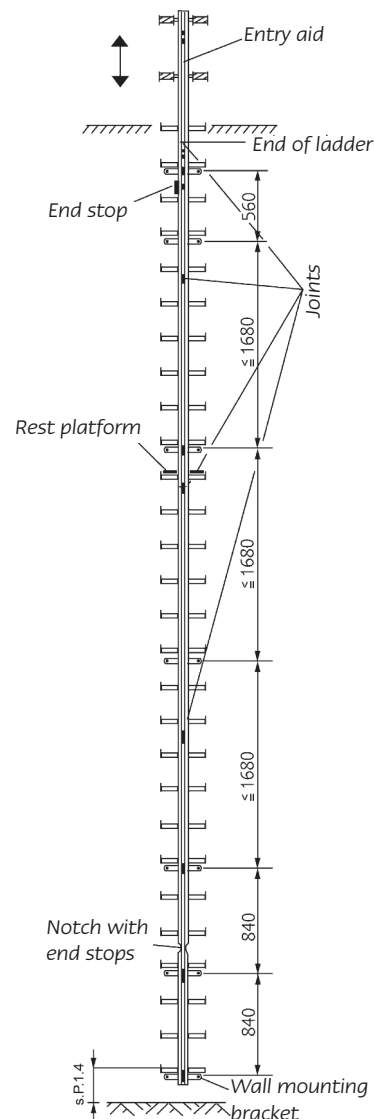

Fig. 1 Single rail fall protection ladder Model 5442.02/Model 9442.02 with attachable entry aid
- 1.3** The top rung and the top access level should be at the same height. In the case of manholes with cover or possible with dirt trap the top end of the ladder must be placed correspondingly lower (Fig. 1).
- 1.4** The distance from the lower access level to the lowest rung may be between 100 and 400 mm (Fig. 1).
- 1.5** According to DIN EN ISO 14122 a resting platform is required every 12 m. Like the workplace ordinance must be the Rest platforms in appropriate distances. The DIN 18799 requested every 10m (25m for trained persons) (Fig. 1).
- 1.7** It must be possible to connect or disconnect the connection between the fall protection runner and safety belt from a safe position. This requirement can be satisfied by mounting a HACA pivoting entry aid Model 0529.67.01 or, in the case of manholes, using a HACA attachable entry aid Model 0529.65.03 or Model 0929.65.03 (Fig. 1, please heed separate assembly instructions).
Before assembly check all parts to ensure they are clean and undamaged. Keep mortar etc. away from the parts. The ladder can be assembled from basic ladder parts of different lengths. The configuration can be selected freely. Arrangement of the top and bottom wall mount (see Fig. 1):
Exception: The wall mounts Model 0544.14 and 0944.14 (see Fig. 4) should be mounted in a grid spacing of from 0.14m to a maximum of 0.98m. It will be sufficient in terms of structural stability if the grid spacing is alternated with one at 0.98m, the next fastening at 1.12m, the next fastening at 0.98m etc. The grid spacing can be increased to a maximum of 1.68m if the ladder is erected on a surface that has been calculated to be of sufficient structural stability. When using the attachable entry aid the top mounting bracket distance is 560 mm (Fig. 1).
2.4 The attachable entry aid has an additional ladder rung at the bottom end which acts as a substitute for the missing rung in manholes with dirt traps. On the top section of ladder the mounting bracket must be mounted directly below the top ladder rung (Fig. 1). Please heed the assembly instructions for »Model 0529.65.03 and Model 0929.65.03 HACA attachable entry aid for fall arrest rails«.